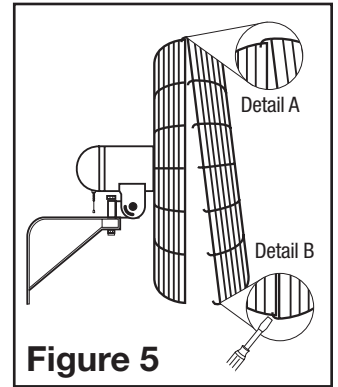

Figure 5
3. Hold the Front Grill so that the name, in the center, is right side up and straight across. Starting at the top: Fasten Front Grill to Rear Grill by sliding the hooked wires on the Front Grill over the outermost ring on the Rear Grill. (**Figure 5 / Detail A**). The bottom most hooks will require the use of a flathead screwdriver to complete assembly. Stand behind the Fan. Slip the flat of the screwdriver between the Front and Rear Grills, next to one of the unfastened hooks (**Figure 5 / Detail B**). Pull screwdriver handle upwards towards the Rear Grill. Slip the Front Grill hook over the Rear Grill outer ring with a push. Repeat procedure with remaining hooks.